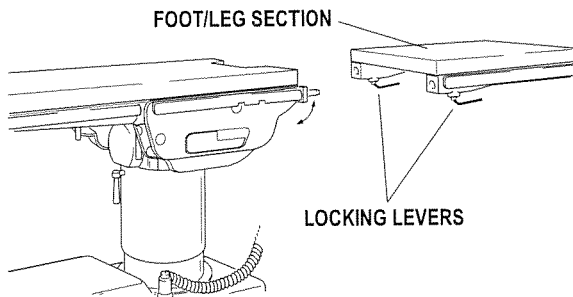

Figure 3-17. Leg Section Release Levers
b. Later Model Tables - To remove the leg section on the later model tables, simultaneously depress both release levers and pull the leg section out. See figure 3-17. Press the LEG DOWN button on the pendant control to position the leg section attachment pins down and out of the way.